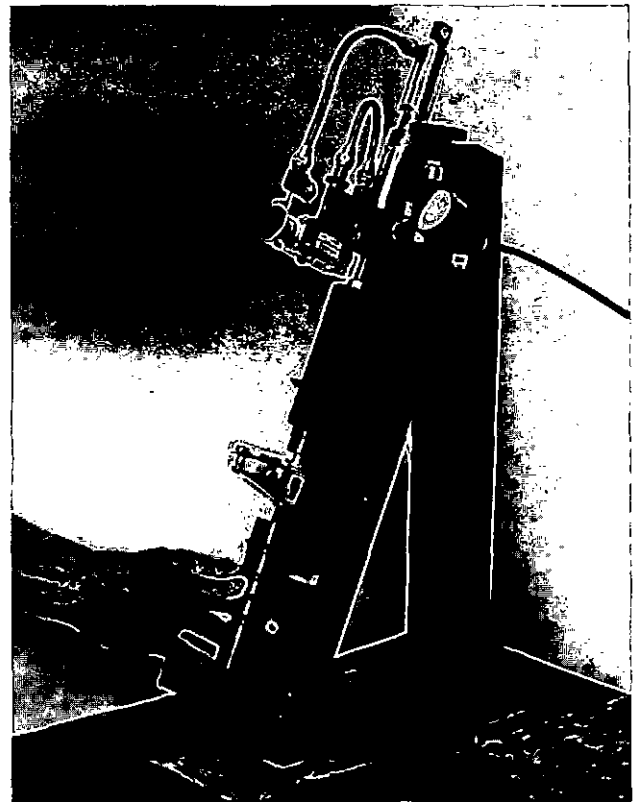

Fig. 2-43, (F60302). Injector in the plunger sticking tool
21. To check the injector plunger sticking in the PT (type D) and flanged injectors, use 3375209 Injector Plunger Sticking Checking Tool, Fig. 2-43. See section four for the operating instructions.